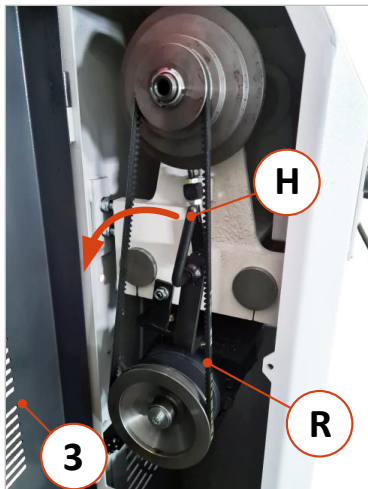

Figure 10: Speed setting
- Switch off spindle with push-button (B) and wait for standstill.
- Now open the service door (3) on the left side of the machine.
- See ⇒ Figure 10: To loosen the belt pulleys, swivel the tensioning lever (H) 90° to the left. Then set the belt to the desired speed according to the following table: